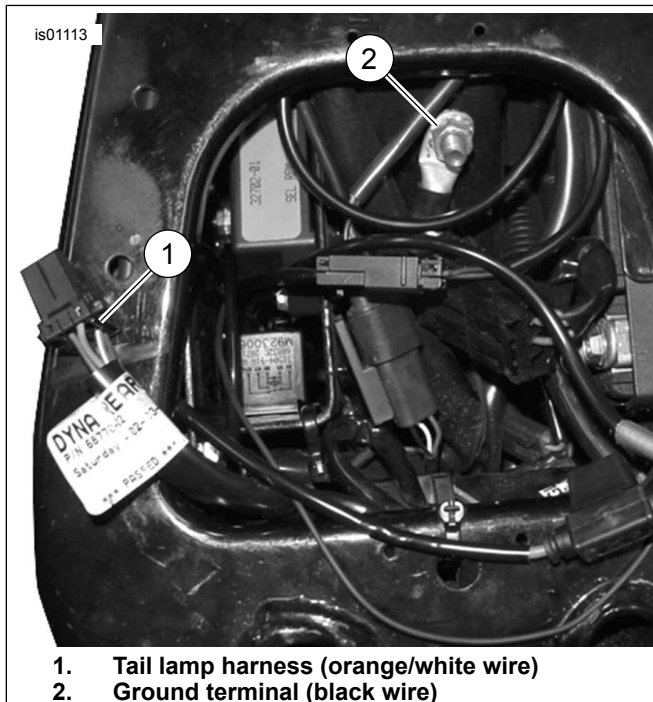

Figure 1. Power and Ground Connections (Dyna Models)
- See Figure 1. Cut the black wire on the satellite receiver wire harness to easily reach the ground location, and crimp the ring terminal to the end of the wire per the Packard crimping tool instructions in the service manual appendix.
2. See Figure 1. Carefully slice open an area of the main harness wrap inside the side cover at an accessible point, and cut an orange/white main harness power lead.